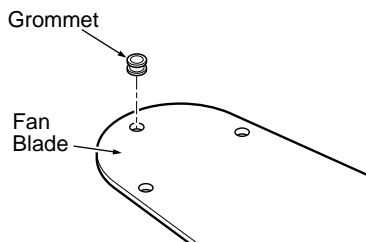

Figure 6a - Inserting Grommet into Fan Blade
1. Your fan may include blade grommets. If your fan has grommets, insert them by hand into the holes as shown in Figure 6a.